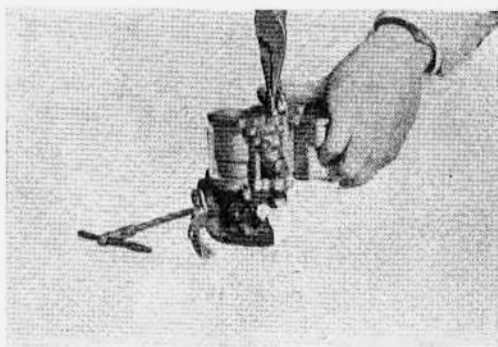

Figure 113
(2) Pull out spare metering rod (Fig. 113).